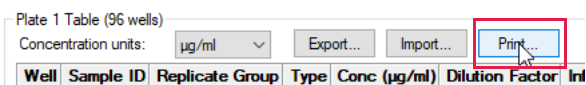

Figure 6-26: Sample Plate Print Button
1. In the **Sample Plate Map** (see Figure 6-26), click **Print**.